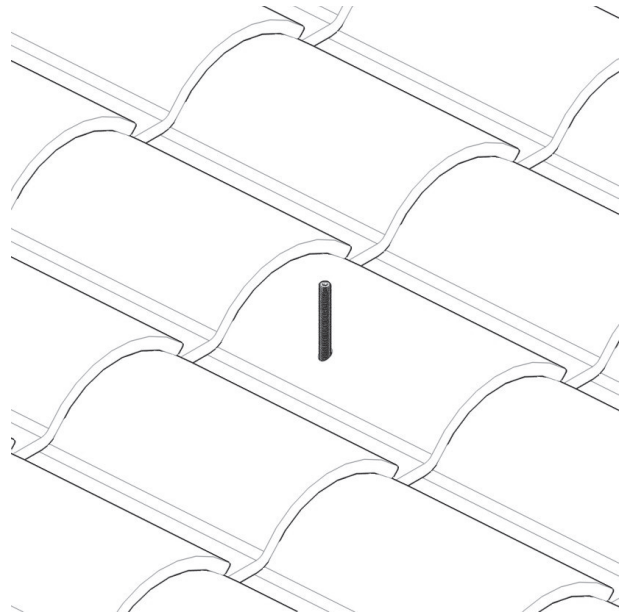

Figure 11.
15. Position the 3/8" SS all-thread through the hole in the tile, thread it into the SS coupler and tighten. See Figure 11.